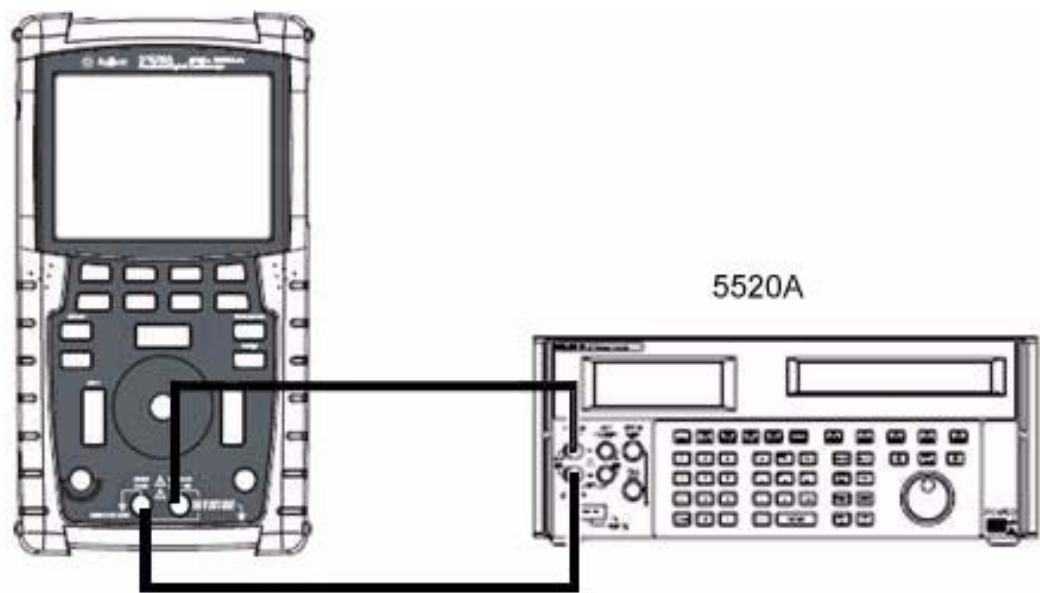

Figure 7-2 Test connections from calibrator to instrument
- 4 Connect the calibrator to instrument's input and ground terminal as shown in Figure 7-2 using a banana plug.
- 4 Connect the calibrator to the instrument’s input and ground terminal as shown in Figure 7-2 using a banana plug.
- 4 Connect the calibrator to the instrument's input and ground terminal as shown in Figure 7-2 using a banana plug.
- 4 Connect the calibrator to the instrument's input and ground terminal as shown in Figure 7-2 using banana plug.